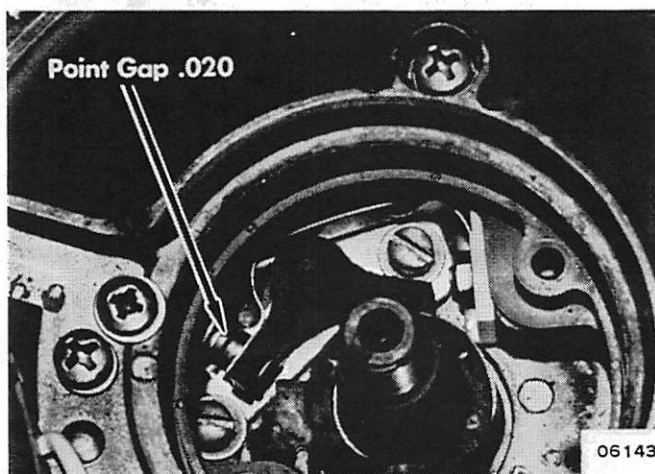

Figure 1. Checking Contact Point Gap
3. Rotate crankshaft to position contact point cam follower at high point on cam. Adjust point to .020". (Figure 1) Reinstall flywheel assembly.